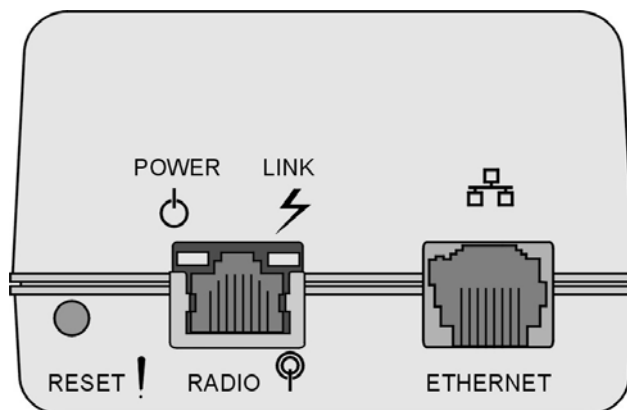

Figure 2-6: Indoor Unit Top Panel
3. Connect the indoor-to-outdoor cable to the Radio connector, located on the top panel of the indoor unit shown in Figure 2-6. The indoor-to-outdoor cable should be connected to the unit before the unit is connected to the mains power.
To verify proper operation, check the LED indicators located on the top panel of the indoor unit as shown in Figure 2-6 on page 2-13, and as described in Table 2-2.